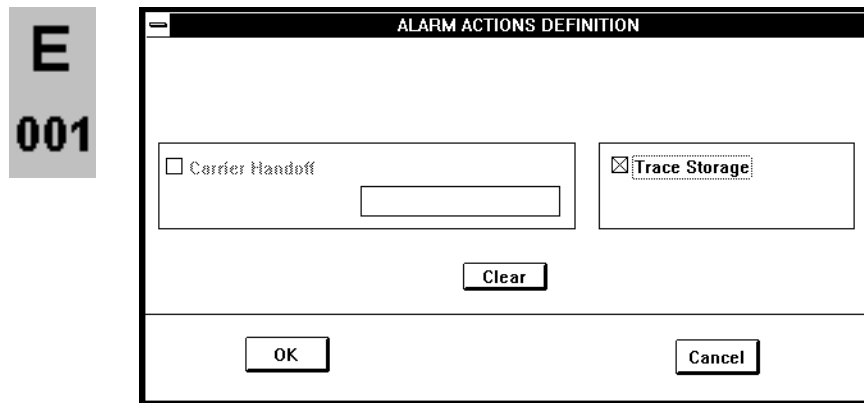

Figure 6-11: E4900 and Option 001 Alarm Actions Definition Dialog Box
6. Select the desired Carrier Measurement Alarm by highlighting it in the **Carrier Measurement Alarm** list and then click on **Select** to open the corresponding alarm definition dialog box, define the applicable alarm parameters and then, if required, click on **Alarm Actions** to open the **Alarm Actions Definition** dialog box (Figure 6-11 and Figure 6-12).